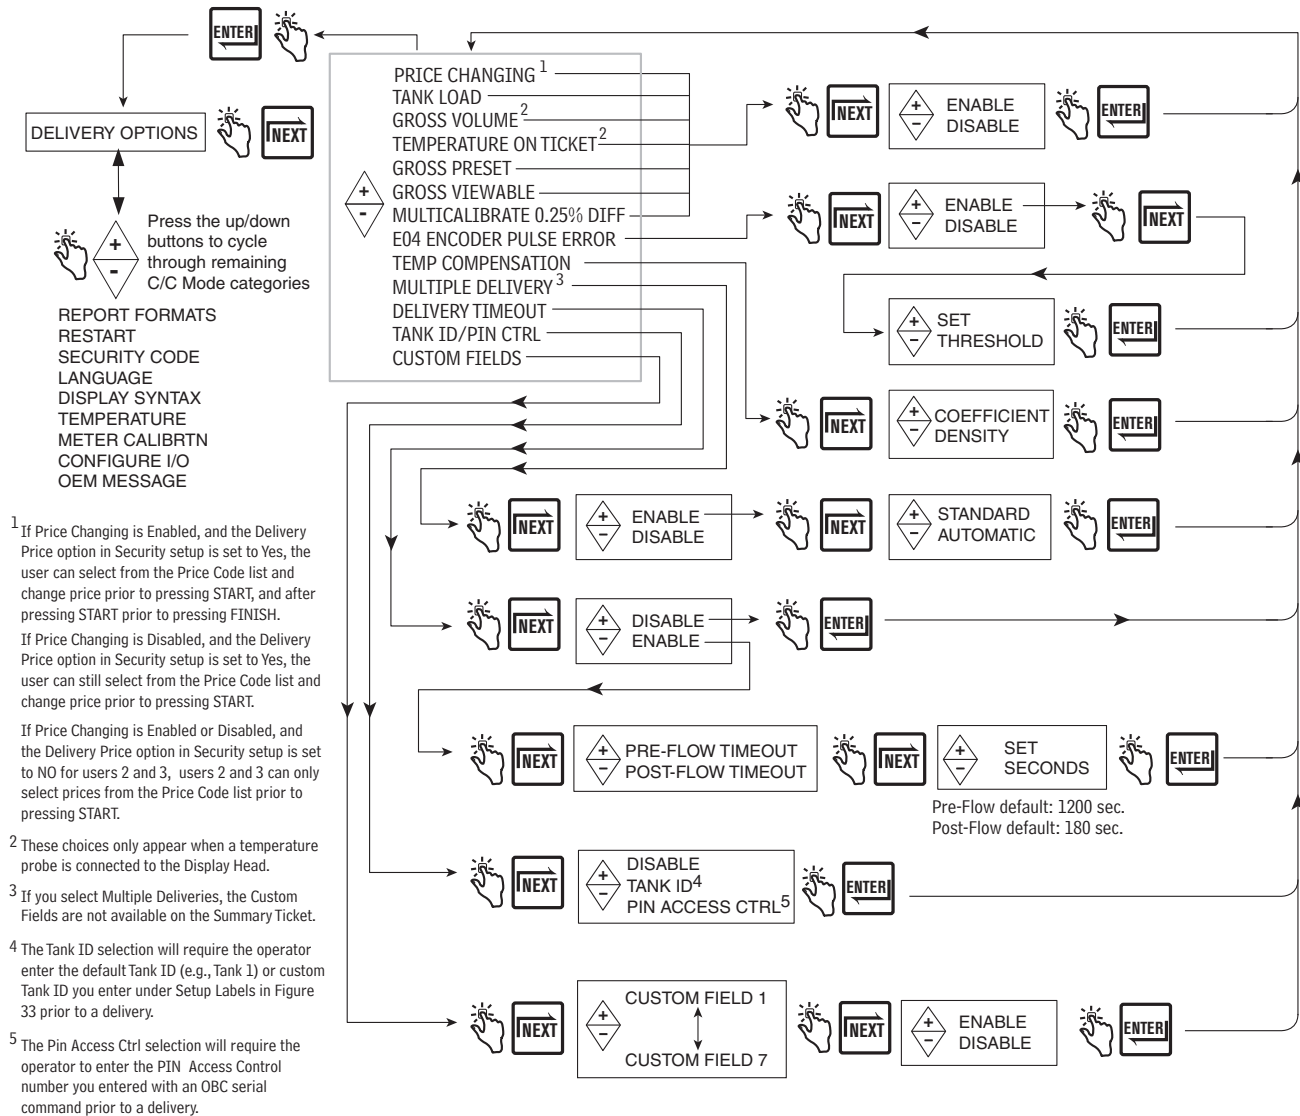

Figure 49. Delivery Options
3. In order to change the density for a given product, the EMR3 has to be set to the density mode and temperature compensation must be enabled as described in Figure 49, Delivery Options.
Figure 49 illustrates Delivery Options setup in C&C Mode. This option lets you enable or disable price changing within the Delivery State as per your regulatory requirements. In this setup you also select coefficient (of expansion) or density as the temperature compensation method for deliveries, enable delivery timeout, enable Tank ID, enable Custom fields, enable Tank Load and enable E04 encoder error (Gross volume and Temperature on Ticket fields also visible when temperature probe connected to EMR Head). Also you can enable / disable Gross Preset, Gross Viewable, Multicalibrate 0.25% Diff and Multiple Delivery.
- A second idle state occurs when flow is halted during a delivery. The user has 180 seconds (default) to either push the FINISH button to complete the delivery, or the START button to resume the delivery. If neither button is pushed within 180 seconds the delivery is terminated. This 180 second timeout can be enabled or disabled by the Delivery Timeout feature (see Figure 49).